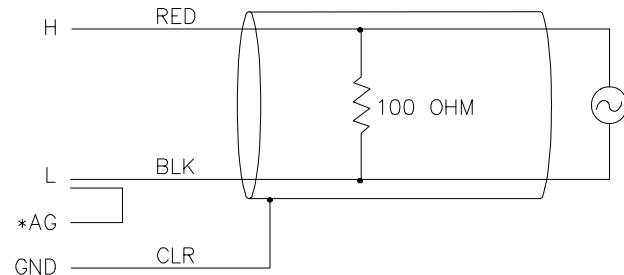

Figure 2. Differential Measurement Connection
If a differential channel is not available, a single-ended measurement (Instruction 1) is a possibility. As a test, wire the LI200S as shown in Figure 2 and make single-ended and differential measurements. Compare results to determine the acceptability of a single ended measurement.
Differential and single-ended connections to the datalogger are shown in Figures 2 and 3, respectively.
*AG in Figure 2 refers to Analog Ground in the CR10 which is the same as ground for the 21X and CR7.
On a differential measurement, jumper the low side of the signal to AG to keep the signal in common mode range, as shown in Figure 2.